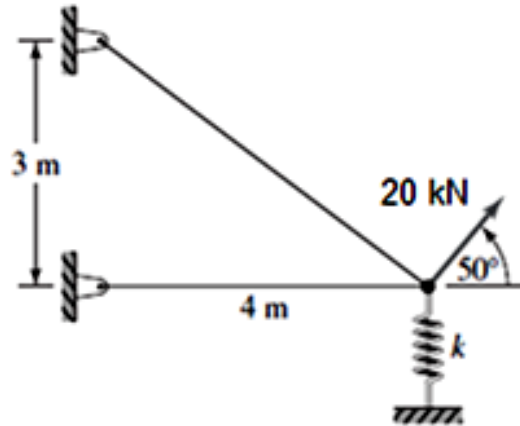

Fig.2
4. Fig.2 shows a two-member plane truss supported by a linearly elastic spring. The truss members are of a solid circular cross section having $d = 25 \text{ mm}$ and $E = 100 \text{ GPa}$. The linear spring has stiffness constant 100 N/mm . Now determine global stiffness matrix and hence write down final FEA formulation to determine (i) displacement of the unconstrained node, (ii) reaction forces at constrained nodes and (iii) stresses in the members.